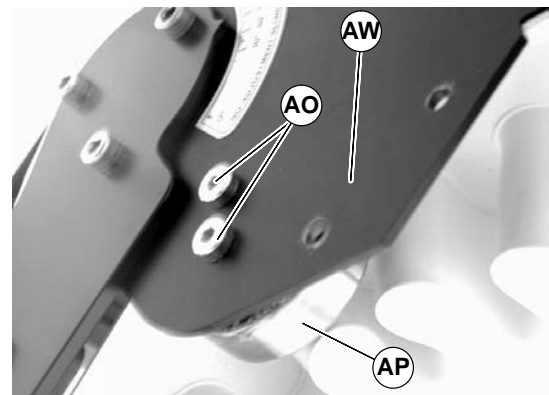

Figure 33
5. If equipped, install return roller bearing (AP of Figure 33) into knuckle plate (AW) using screws (AO).